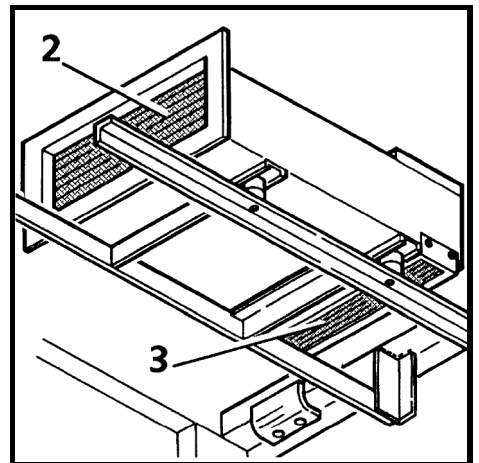

Fig. 41
- If dirty, the heat exchanger has to be cleaned immediately (Fig. 41, pos. 2).
- Remove and clean the fresh air filter of the heater (Fig. 41, pos. 3).